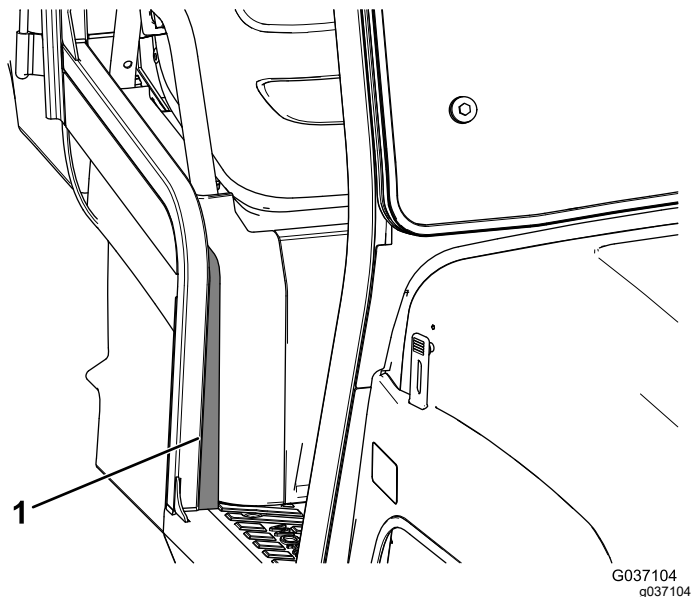

Figure 16
12. Remove the backing from the foam seal and attach the seal to the right side of the machine (Figure 16).